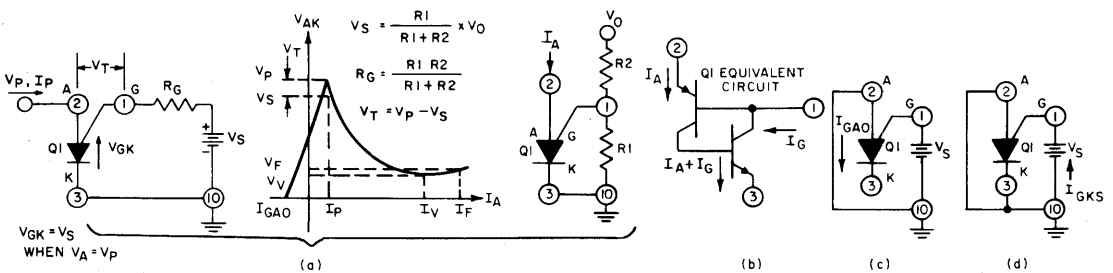

Fig. 22 — General anode characteristics for Q1 (PUT).
* $V_T = V_P - V_S$ (Fig. 22)
The programmable unijunction transistor is essentially an anode-gate SCR. The volt-ampere characteristic of the device is shown in Fig. 22. When an equivalent Thevenin source (V_S , R_G), as shown in Fig. 22, is applied to the gate terminal the device will be "off" if the anode-voltage is negative with respect to the gate voltage. Under this condition, any current flow is exclusively leakage current. When the anode voltage be-